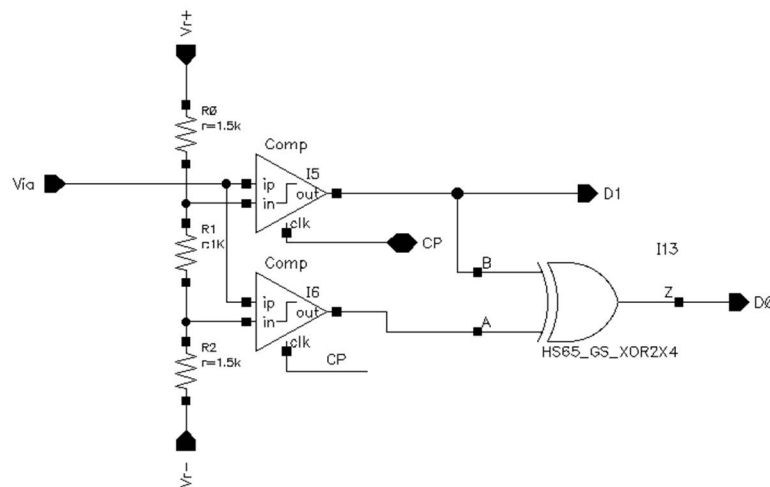

Figure 13. The 1.5-bit ADC, ADSC1p5Bit.
8. Assume a resistor string like the one in Figure 13 is used to generate the reference voltages for ADSC1p5Bit. What should the resistor size ratio **R0:R1:R2** be?
- The 1.5-bit ADC **ADSC1p5Bit**. Complete it according to Figure 13. Use the comparators from the flash ADC with reasonable rise and fall times. Use the resistor values from the homework exercise. Draw all wires so that **ADSC1p5Bit** performs correctly.